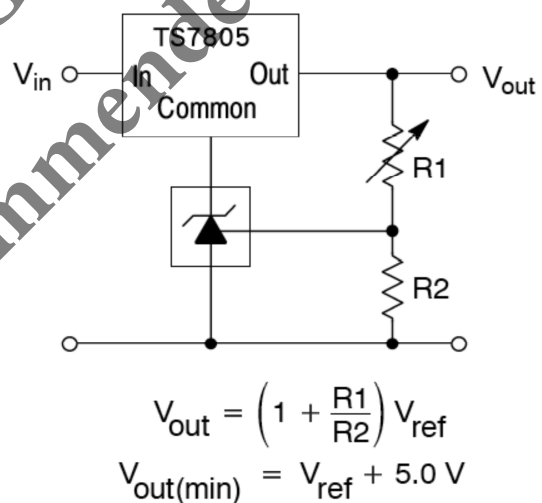

Figure 2. Output Control for Three Terminal Fixed Regulator
* When the device operating with two external resistors, R_1 and R_2 , (refer to Figure 2) the total dynamic impedance of the circuit is given by: